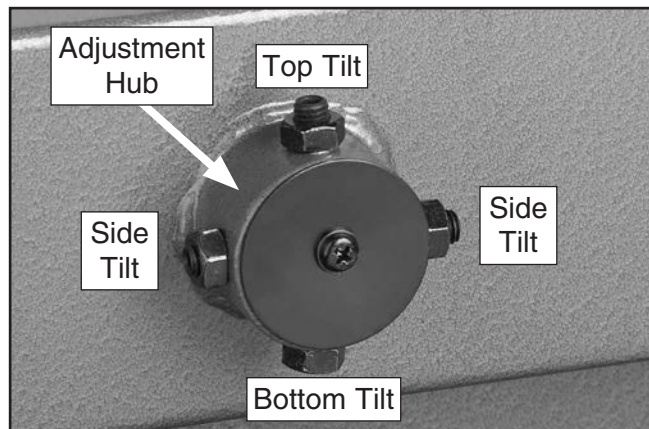

Figure 108. Lower wheel adjustment control.
- Loosen the jam nuts on the lower wheel adjustment hub (see **Figure 108**).